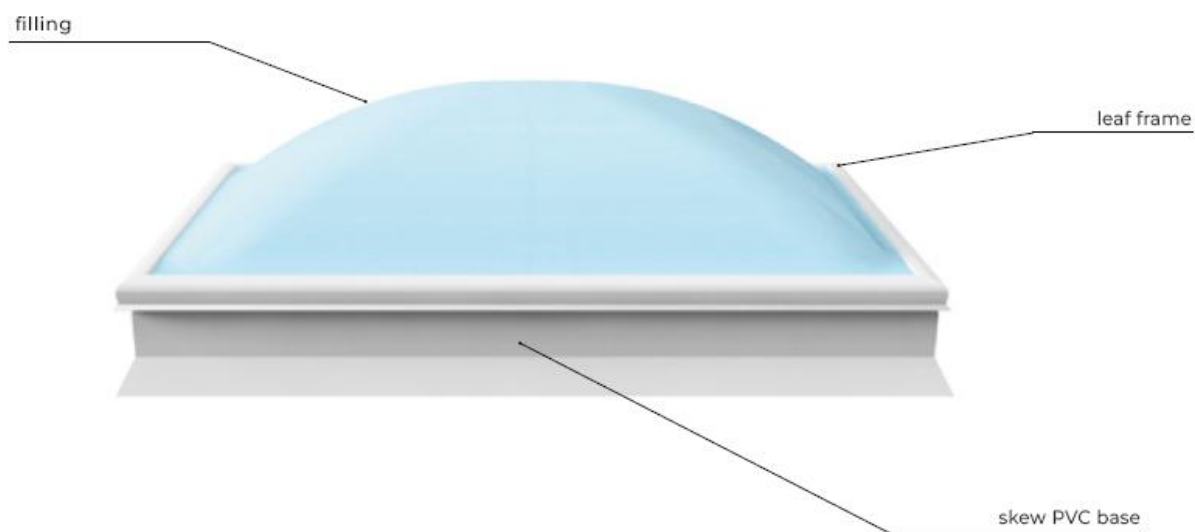
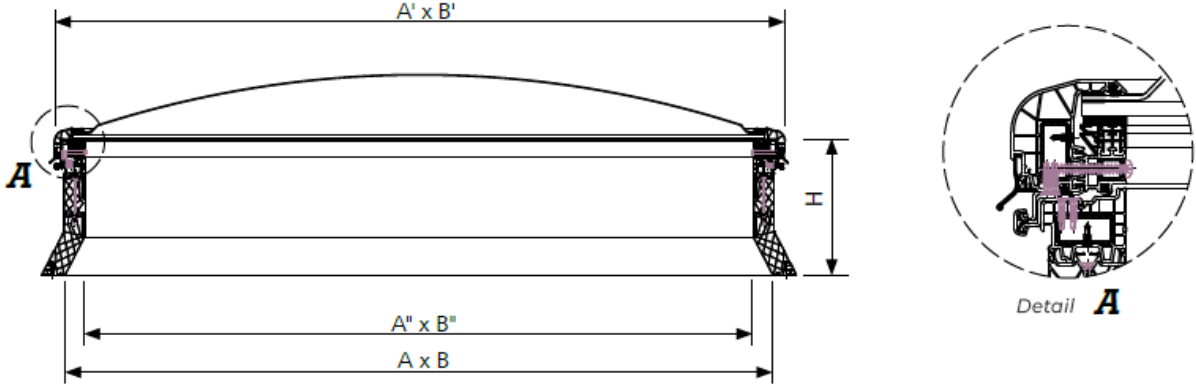

Fig. 1. Fixed skylight mcr ULTRA THERM type with skew PVC base and PVC leaf.
Fig. 2. Cross-section through fixed skylight of the mcr ULTRA THERM type with skew PVC base and PVC leaf.
- a) with PVC base and PVC leaf → see Fig. 1, Fig. 2,